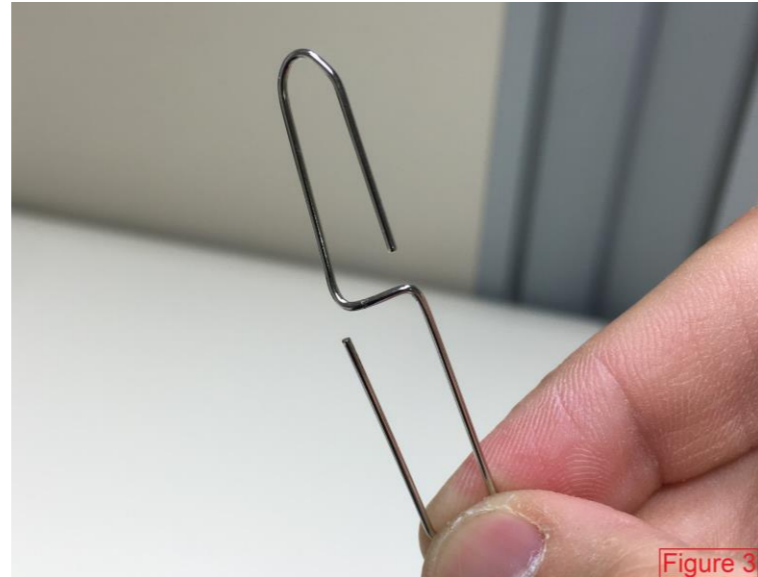

Figure 3
- 3) Once step 2 is completed, the clip should become flat as shown in Figure 3 above.